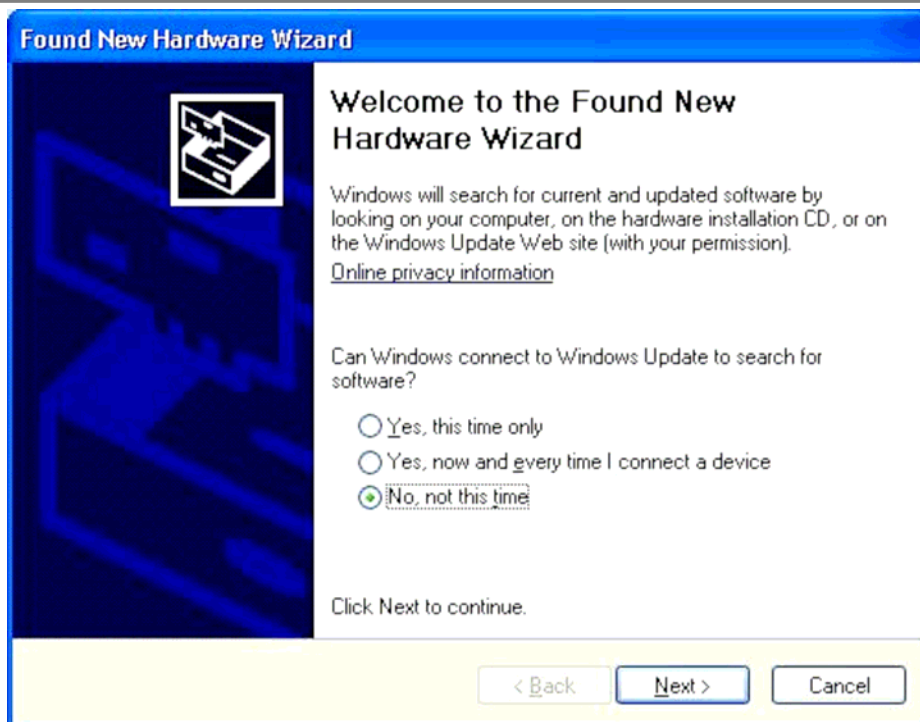

Figure 2.1
- Connect the device to a spare USB port on your PC. If the device is based on the FT2232, the Microsoft composite device driver is automatically loaded in the background. Once the composite driver has been installed Windows Found New Hardware Wizard will launch. If there is no available Internet connection or Windows XP SP 2 is configured to ask before connecting to Windows Update, the screen shown in Figure 2.1 is displayed. Select "No, not this time" from the options available and then click "Next" to proceed with the installation. If there is an available Internet connection, Windows XP will silently connect to the Windows Update website and install any suitable driver it finds for the device in preference to the driver manually selected.